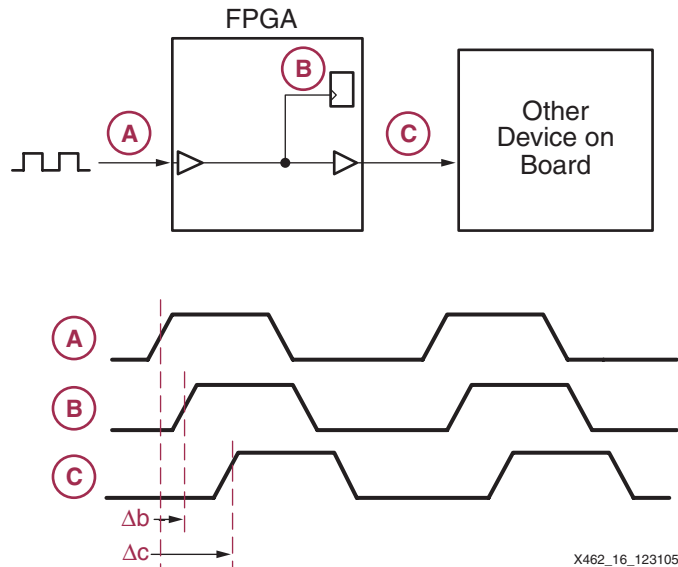

Figure 16: **Clock Skew Inherently Exists in Every Synchronous System**
Figure 16 illustrates clock skew in an example system. A clock source drives the clock input to an FPGA. The clock enters through an input pin on the FPGA, is distributed within the FPGA using the internal low-skew global clock network, and arrives at a flip-flop within the FPGA. Each element in the clock path delays the arrival of the clock edge at the flip-flop. Consequently, the clock input at the flip-flop—Point (B)—is delayed, or skewed compared to the original clock source at Point (A). In this example, this clock skew or difference in arrival time for this path is called Δb .
Is there a way to eliminate clock skew? Fortunately, a Digital Clock Manager (DCM) provides such capabilities. Figure 17 shows the same example design as Figure 16, except this time implemented in a Spartan-3 FPGA. Two DCMs eliminate the clock skew: One DCM eliminates the skew for clocked items within the FPGA, the other DCM eliminates the skew when clocking the other device on the board. The result is practically ideal alignment between the clock at Points (A), (B), and (C)!